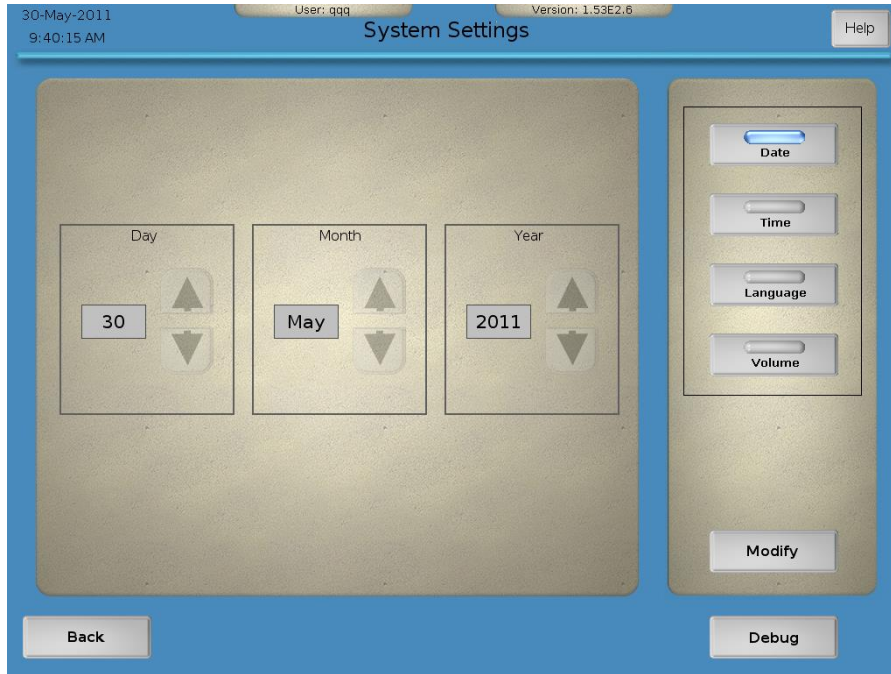

Figure 3-48. System Settings screen—date
- a) **Date:** Change the day, month, and year by pressing on the up and down arrows (Figure 3-48). Proceed to step 3.